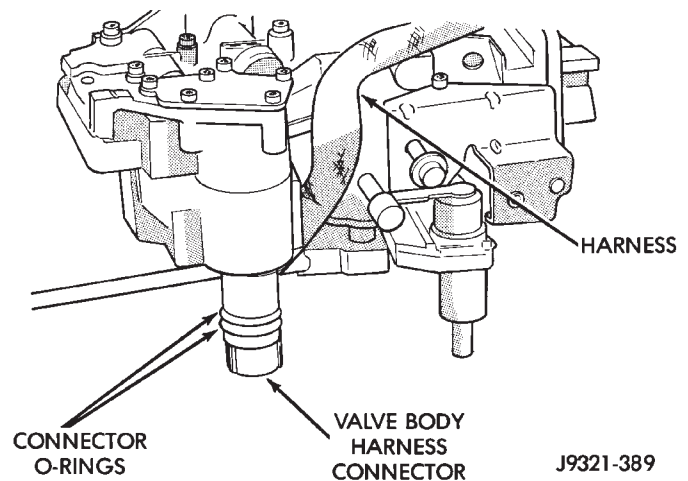

Fig. 28 Valve Body Harness Connector O-Ring Seal
(1) Check condition of O-ring seals on valve body harness connector (Fig. 28). Replace seals on connector body if cut or worn.